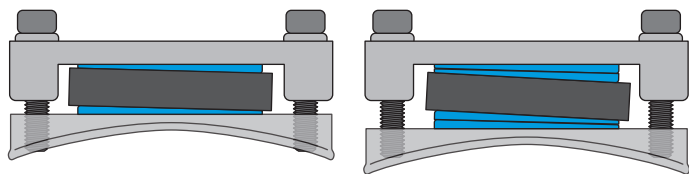

Figure 2
1. When adding wedges, two wedges must be used at any time in the manner shown in Figure 2 where each wedge faces in the opposite direction to keep the bracket square. A maximum of four wedges (2 on each side) may be used at any time.
1. When transferring to a two-hole bracket, use the pilot holes 7 & 8 (Figure 2) in the Adjustable Alignment Bracket to mark the foot for the ½ in. holes.